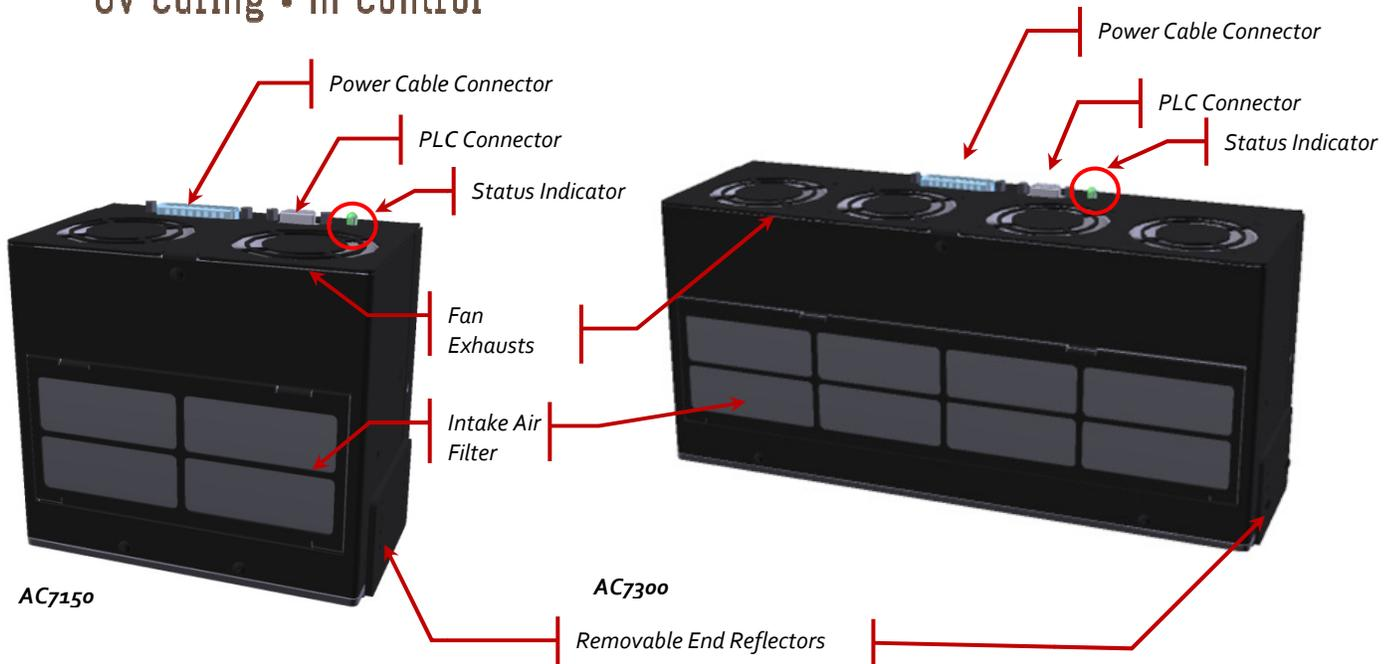

Figure 1 UV LED Head Connection Ports (additional features annotated)
3. Attach the male end of the power cable to the power supply unit, and connect the female end of the power cable to the UV LED Head per Figure 1
4. Attach the female end of the PLC cable to the PLC I/O connector on the PLC2000 (see Figure 2) and the male end of the PLC cable to the UV LED Head (see Figure 1).
To improve the longitudinal uniformity at the ends of the UV light line, the AC7- series products are equipped with adjustable end reflectors (see Figure 1). These reflectors can be lowered in 10mm increments and can provide about 15mm of extended useful length when fully extended to 30mm working distance. They may also be useful in providing additional operator shielding of UV light.